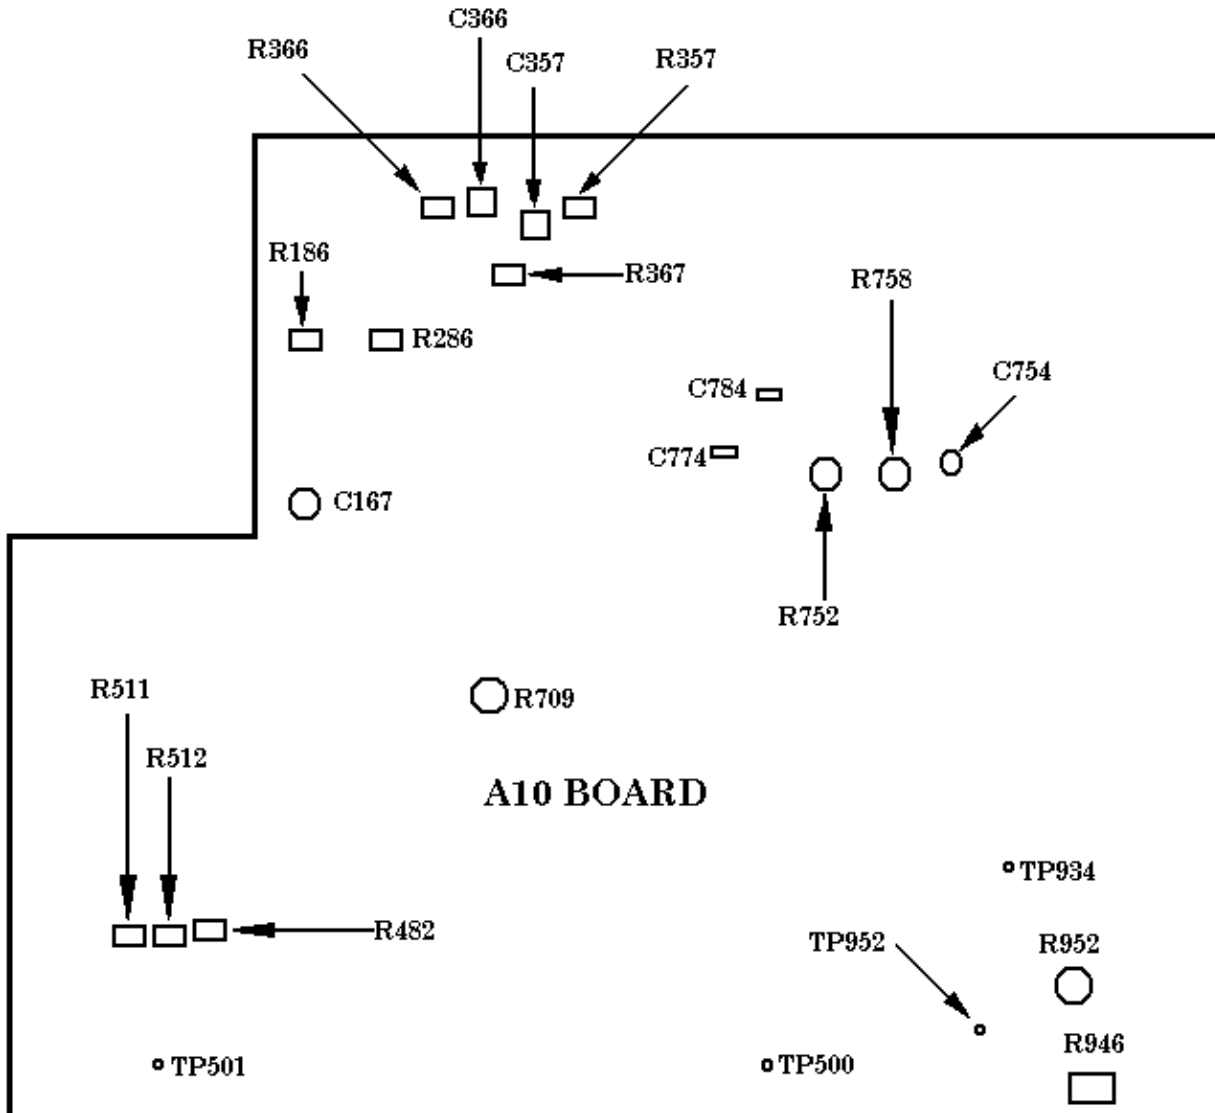
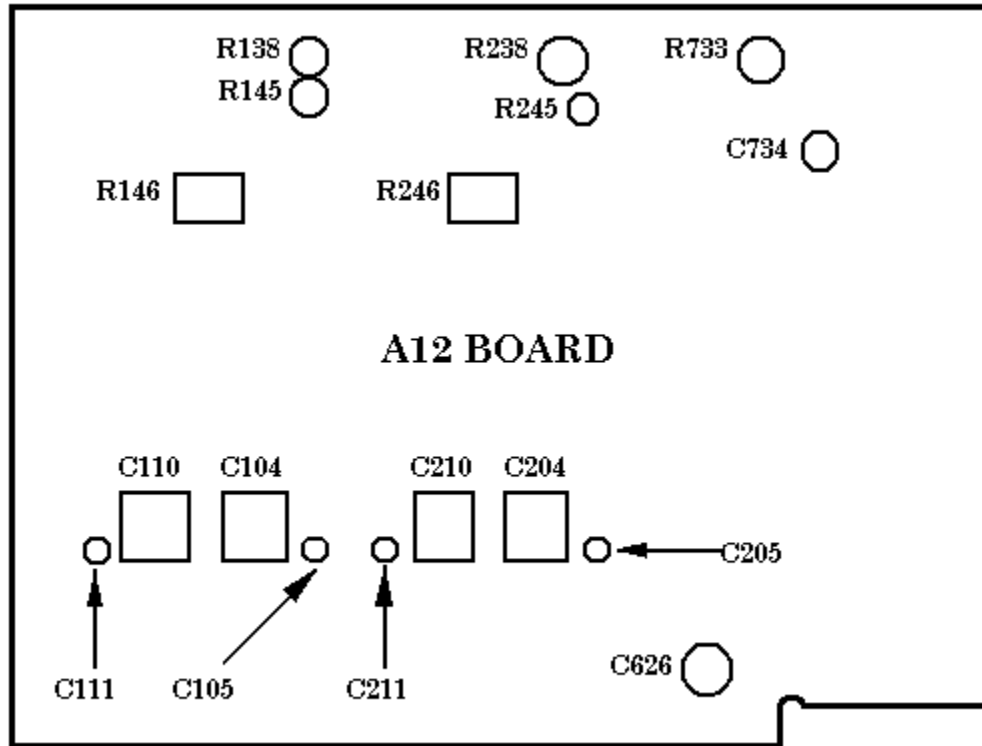

Figure 1. Adjustment locations A10 board.
Figure 2. Adjustment location A12 board.
- (3) Connect oscilloscope calibrator **SOURCE/MEASURE CHAN 1** to **TI CH 1 OR X** input.
- (4) Set oscilloscope calibrator for a **CH 1 VOLTAGE** output of 100 mV at 1 kHz.
- (5) Adjust R186 (fig. 1) for exactly 5 divisions of TI vertical deflection (R).
- (7) Set TI CH 1 VOLTS/DIV switch to **2m**.
- (8) Adjust R145 (fig. 2) for exactly 5 divisions of TI vertical deflection (R).
- (9) Set oscilloscope calibrator to **STANDBY**.
- (10) Set TI CH 1 AC GND DC switch to **GND**.
- (11) Set TI CH 1 VOLTS/DIV switch to **10m**.
- (12) Adjust CH 1 \updownarrow POSITION control to position trace on center horizontal graticule line.
- (13) Set TI CH 1 VOLTS/DIV switch to **2m**.
- (14) Adjust R138 (fig.2) to position trace on center horizontal graticule line.
- (15) Repeat (11) through (14) above for minimum trace shift when setting CH 1 VOLTS/DIV from **10m** to **2m**.
- (16) Set TI CH 1 VOLTS/DIV switch to **20m**.
- (17) Adjust CH 1 \updownarrow POSITION control to position trace on center horizontal graticule line.
- (18) Set TI CH 1 VOLTS/DIV switch to **10m**.
- (19) Adjust R146 (fig. 2) to position trace on center horizontal graticule line.
(20) Repeat (16) through (19) above for minimum trace shift when setting **CH 1 VOLTS/DIV** from **10m** to **20m**.
(21) Position TI switches as listed in (a) through (c) below:
(22) Disconnect oscilloscope calibrator **SOURCE/MEASURE CHAN 1** from **TI CH 1 OR X** input.
(23) Connect oscilloscope calibrator **SOURCE/MEASURE CHAN 1** to **TI CH 1 OR X** input using a 50Ω feedthrough termination.
(24) Set oscilloscope calibrator for a **CH 1, EDGE** mode output of 1 kHz and adjust amplitude for 5 divisions of TI vertical deflection.
(25) Adjust C105 (fig. 2) for best front corner and C104 (fig.2) for best flat top.
(26) Set **TI CH 1 VOLTS/DIV** switch to **2**.
(27) Adjust oscilloscope calibrator output for 5 divisions of TI vertical deflection.
(28) Adjust C111 (fig. 2) for best front corner and C110 (fig.2) for best flat top.
(29) Set oscilloscope calibrator to **STANDBY**.
(30) Move oscilloscope calibrator **SOURCE/MEASURE CHAN 1** connection from **TI CH 1 OR X** input to **TI CH 2 OR Y** input.
(31) Set **TI VERTICAL MODE CH 1 BOTH CH 2** switch to **CH 2**.
(32) Set oscilloscope calibrator for a **CH 1 VOLTAGE** output of 100 mV at 1 kHz.
(33) Adjust R286 (fig. 1) for exactly 5 divisions of TI vertical deflection (R).